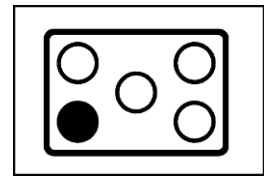

Fig. 3
- **Cook-top control panel and use** - On the control panel, 4 empty and one fully coloured circles are placed next to each gas cock knob of the cook-top (Fig. 3). The fully coloured one indicates the position of the gas burner that is commanded by the knob in question.